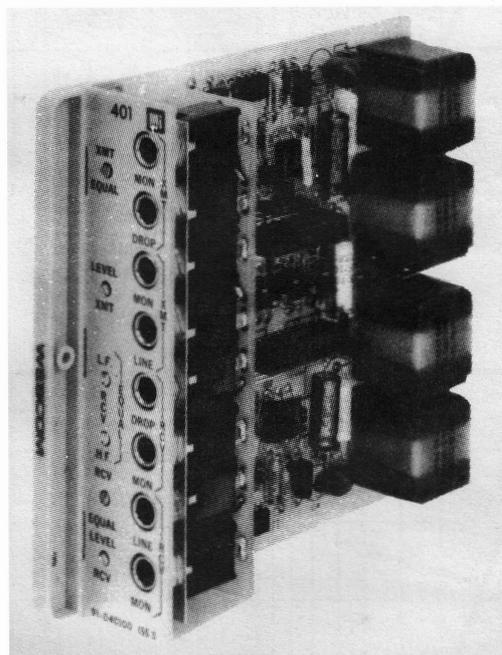

Figure 1. 401 Dual Line Amplifier
1.01 This Section provides circuit description, installation procedures, and testing information for the Wescom® 401 Dual Line Amplifier, shown in Figure 1.